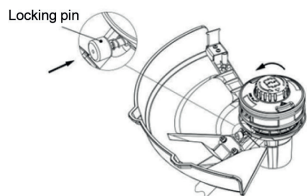
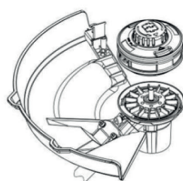

Fig. 14A
Fig. 14B
1. Press the locking pin and at the same time turn the cartridge anti-clockwise to remove it. (Fig.14A/Fig.14B)